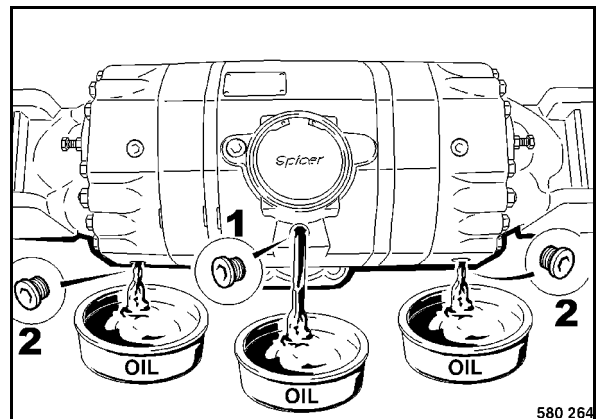

Fig. 86
- Clean and unscrew all level inspection and drain plugs (Fig. 86).